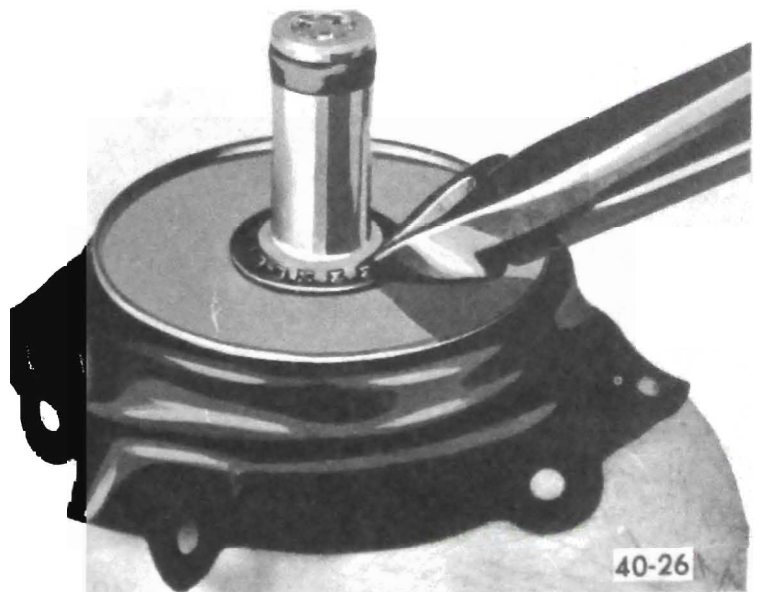

Figure 40-35 - Removing Diaphragm Retainer
1. Remove diaphragm retainer with diagonal pliers and discard retainer. See Figure 40-35.